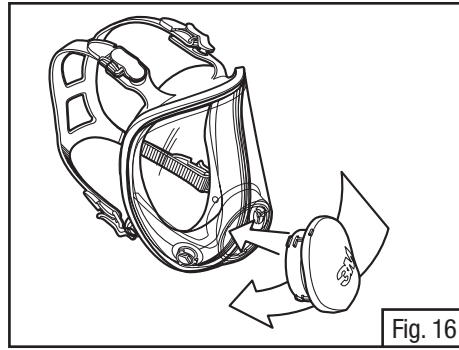

Fig. 16
2. Slide adapter into lens port (Fig. 16).
4. Re-install center adapter into facepiece lens (Fig. 16).
6. Install center adapter assembly (Fig. 16).